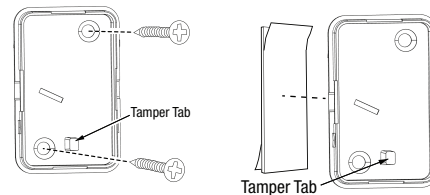

Figure 5. Mounting Methods for Sensor Base
2. Drill holes and install the screws OR remove backing from the double-stick tape and install Base in place. Snap the sensor cover on to the base, making sure that the Tamper Tab on the base aligns with the Tamper button as shown in Figure 5.
5. Replace the Sensor/Cover onto the Sensor Base being sure that the tamper button is aligned with the tamper tab as shown in Figure 5.